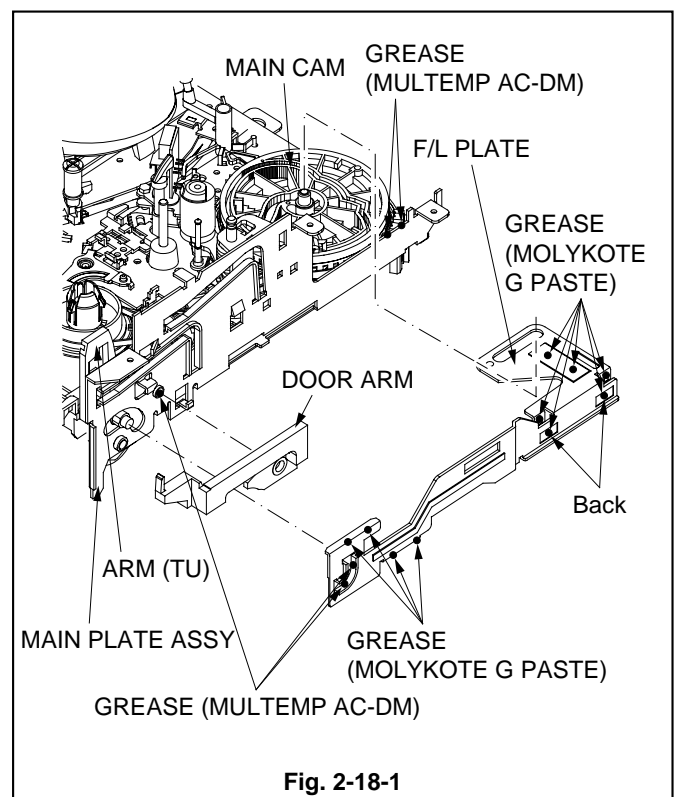

Fig. 2-18-1
1. Slightly lift the back of the F/L PLATE (MAIN CAM side) shown in the Fig. 2-18-1 to remove the F/L PLATE.
1. Apply GREASE (MULTEMP AC-DM)[859D055O90] to the points on the new F/L PLATE specified in the Fig. 2-18-1.
2. Apply GREASE (MOLYKOTE G PASTE) [859D055O50] to the points on the new F/L PLATE specified in the Fig. 2-18-1.
3. Apply GREASE (MULTEMP AC-DM)[859D055O90] to the points on the MAIN PLATE ASSY specified in the Fig. 2-18-1.
6. Install the F/L PLATE shown in the Fig. 2-18-1 from the front side (ARM (TU) side).